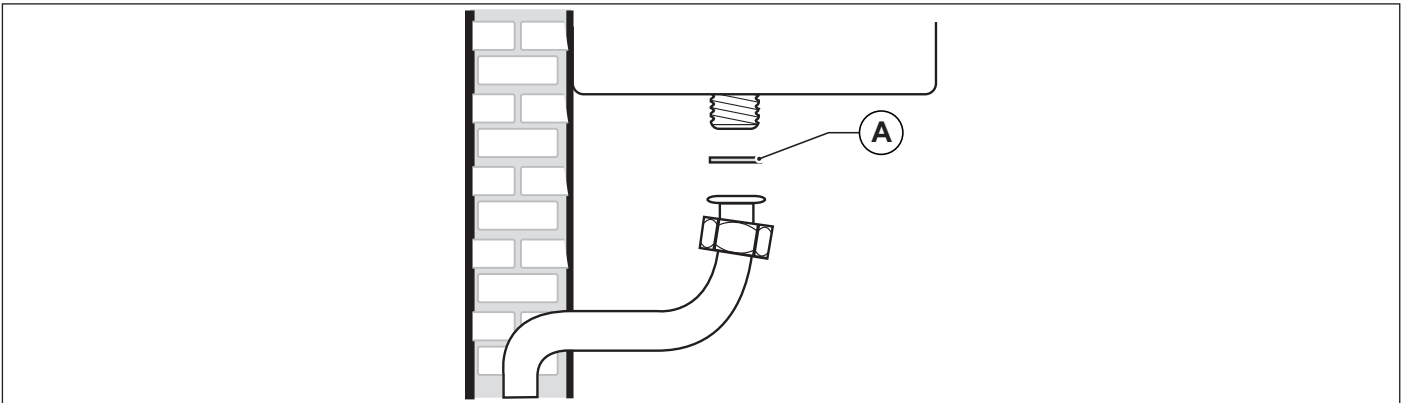

Fig. 15 Connection to gas mains
When connecting the boiler to gas supply network, it is **COMPULSORY** to install an appropriately sized gasket (A) made from suitable material (see Fig. 15 Connection to gas mains).